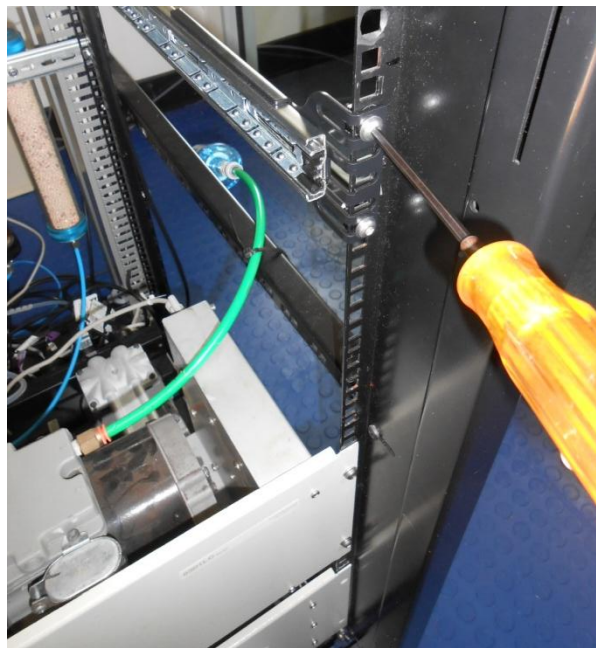

Figure 186 – Attach Slides to Front of Rack
7. Refer to Figure 186 .Install the two assembled outer slide rails onto the left and right side of the rack securely with M6 bolts; washer and locknuts/cage nuts.